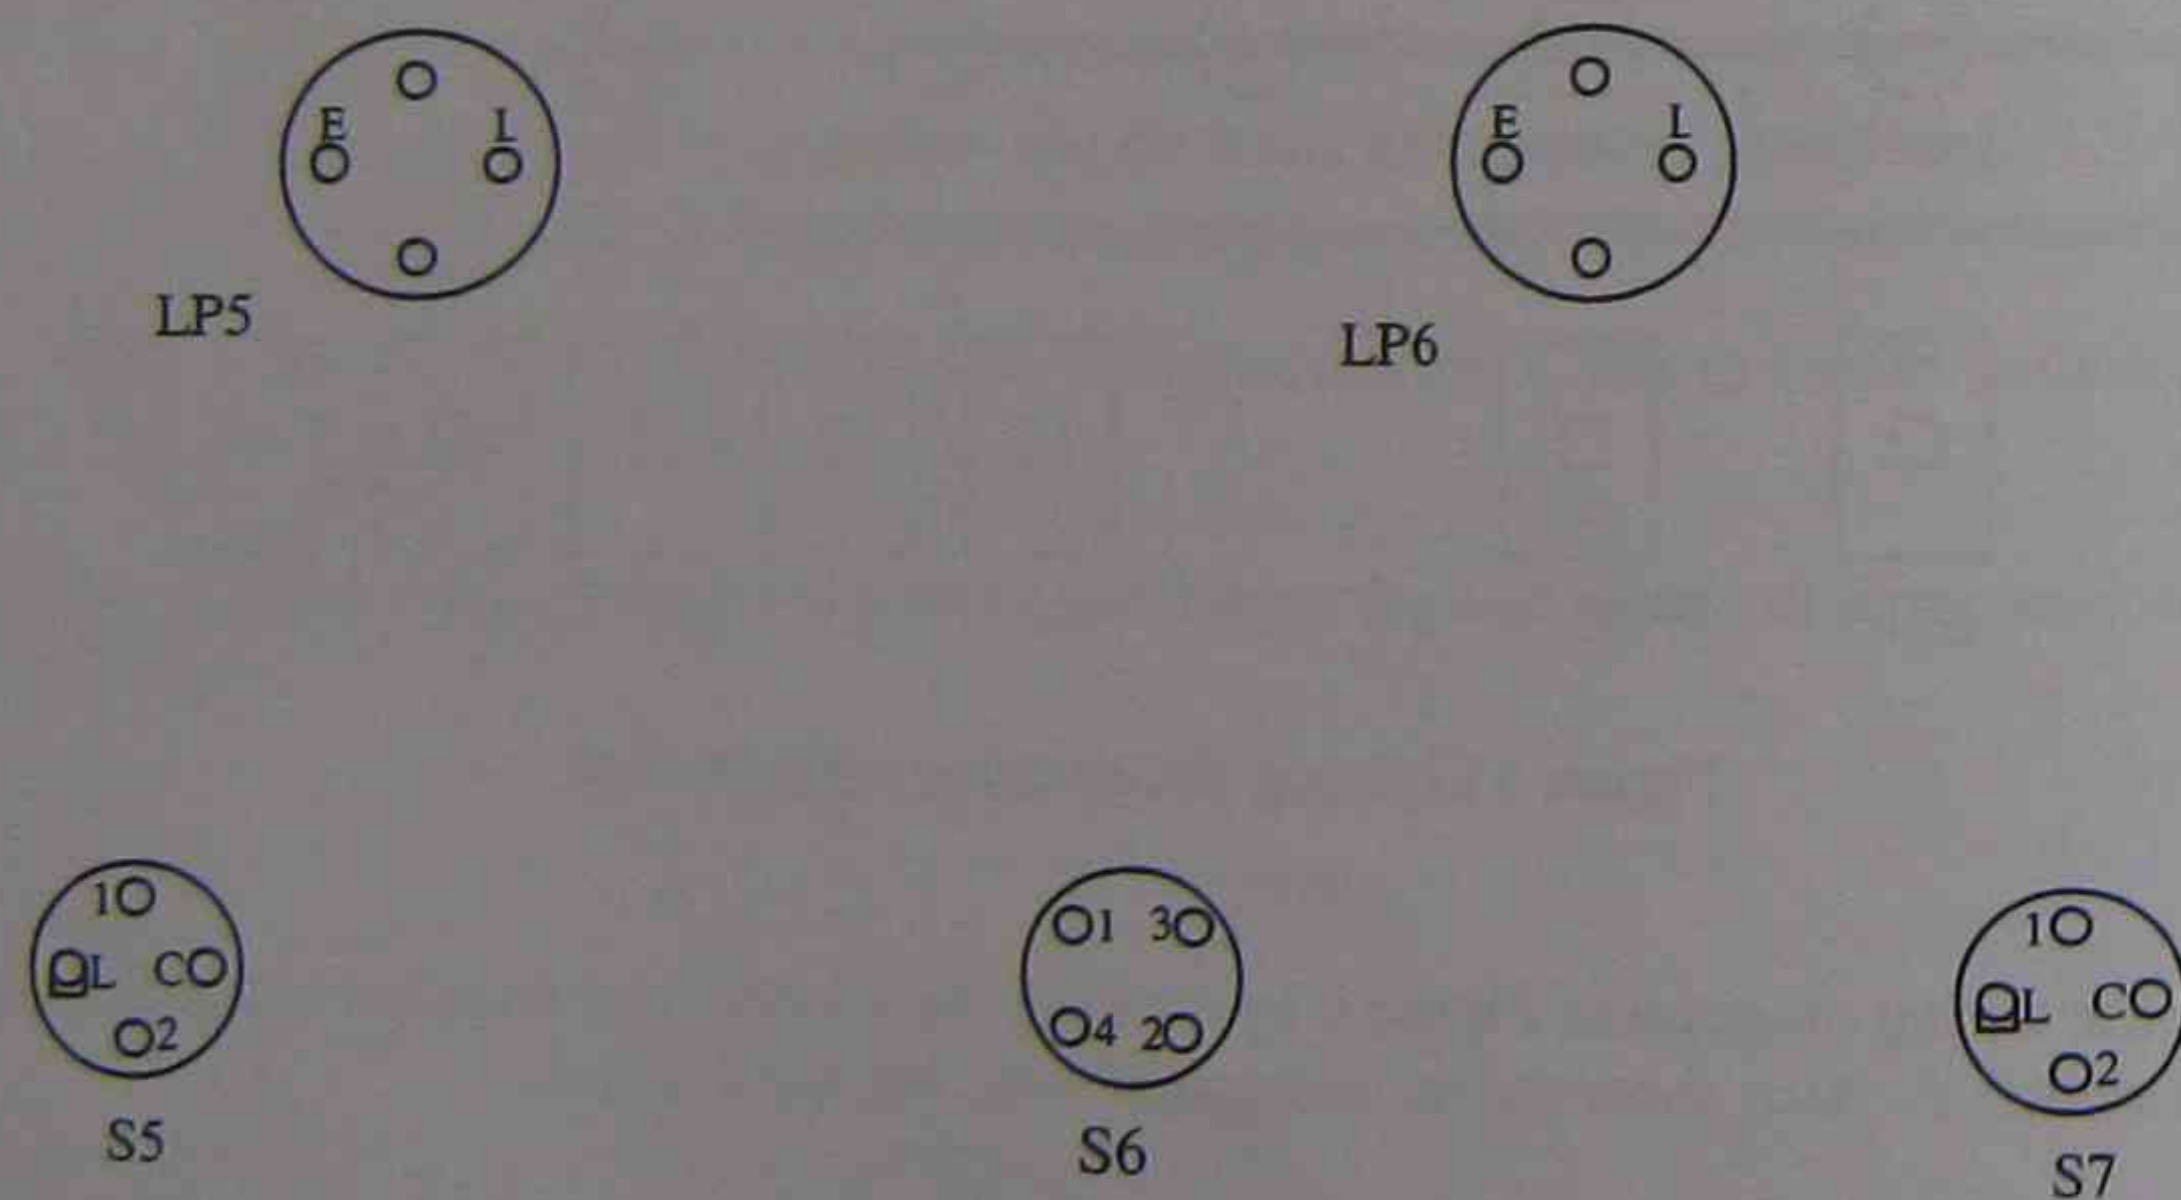

Figure 11 Wiring diagram for lighting point 5 and 6 and switches 5, 6 and 7
6. Complete the wiring diagram of Figure 11 by drawing the connections required at lighting points 5 and 6 and switches 5, 6 and 7. Also show the incoming and outgoing conductors. The intermediate switch should be a Clipsal type.